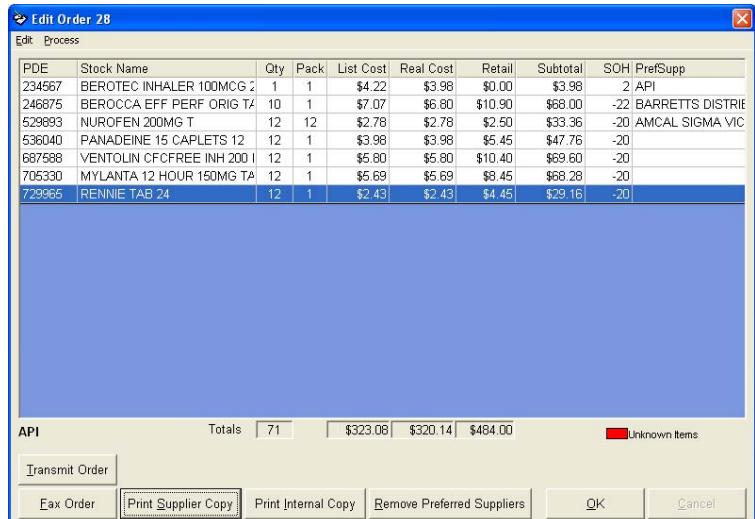

Figure 297
1. From your 'Edit Order' screen (as shown in Figure 297) select the 'Fax Order' button on the bottom of the screen.